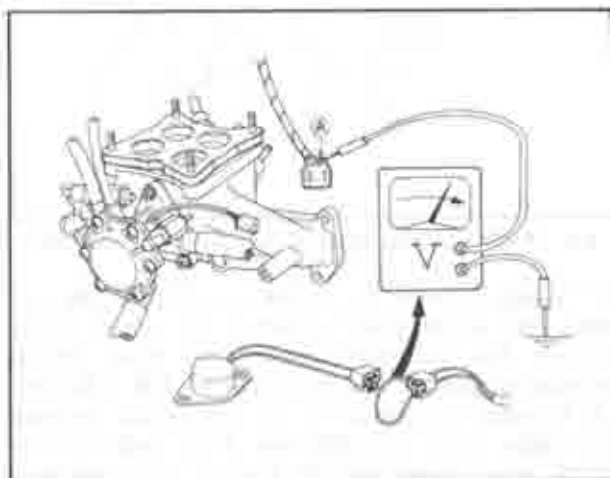

Fig. 1A-30
4. Disconnect the heat hazard sensor coupler and connect a jumper wire to both terminals in the coupler (from control unit) as shown in Fig. 1A-30.